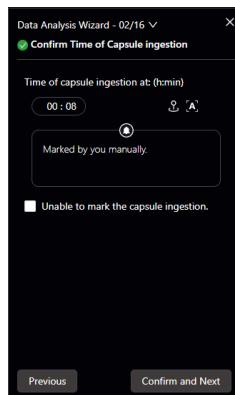

Figure 4-26 Data Analysis – Confirm Time of Capsule ingestion
3) Confirm Time of Capsule Ingestion (Figure 4-26). Check if the capsule ingestion time is correct. If incorrect, you can directly input the necessary time in the time edit box, or click [Mark on the graph]  to mark the time on the graph. To restore the time automatically marked by MotiliScan, click [Auto Compute] . If the time cannot be marked, check [Unable to mark the capsule ingestion]. After confirmation, click [Confirm and Next] to proceed.